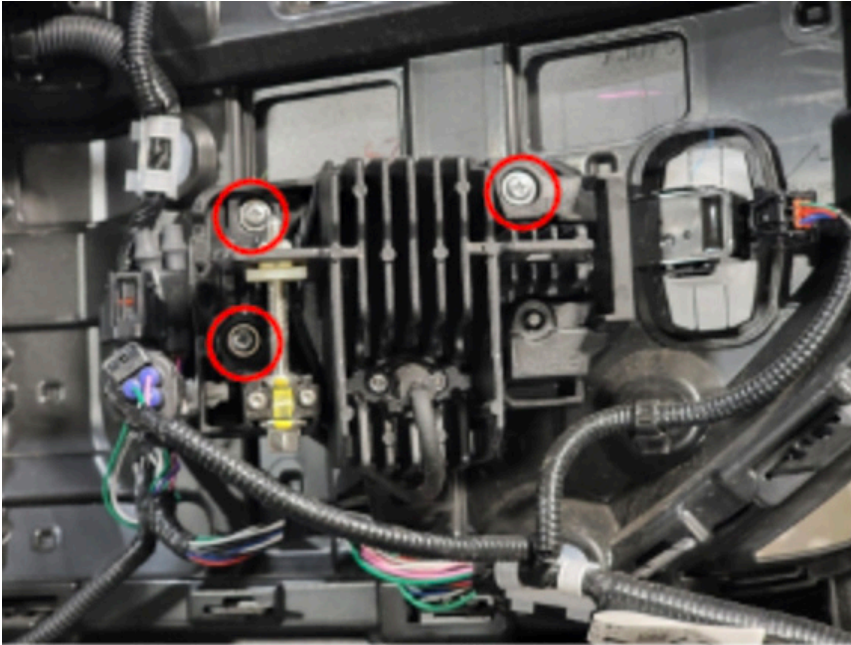

Figure 21.
17. Next, remove the top and bottom side bumper wing fascia covers (fog light face and lower bumper wings). Start by removing the driver and passenger side fog lights. Figure 21.)